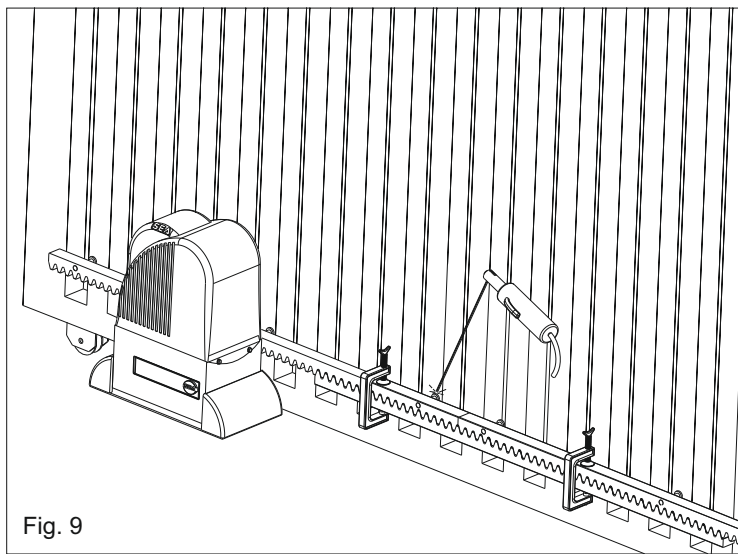

Fig. 9
**5.4.** Make sure that all the gear rack elements are perfectly aligned and placed correctly (teeth in phase). It's suggested to place two aligned elements in front of a third one as shown in Fig.9;